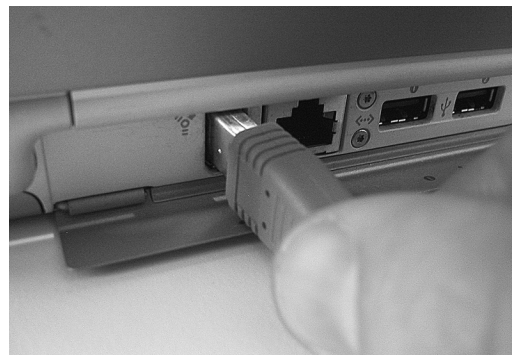

Figure 3-1: Connecting the 828mkII to the computer.
- 1 Plug one end of the 828mkII FireWire cable (included) into the FireWire socket on the computer as shown below in Figure 3-1.
- 2 Plug the other end of the FireWire cable into the 828mkII I/O as shown below in Figure 3-1.